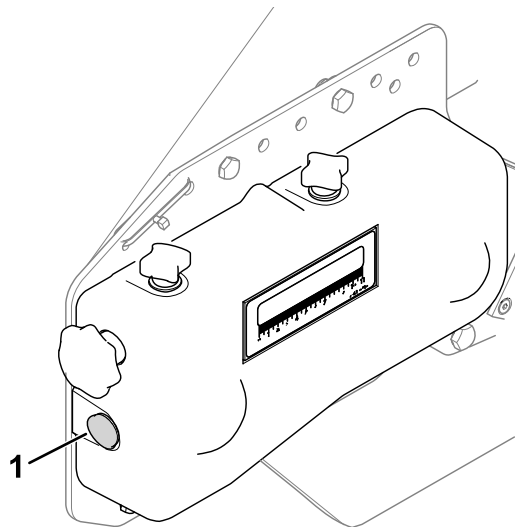

Figure 14
1. Remove the fill plug (Figure 14) from the side of the gearbox.